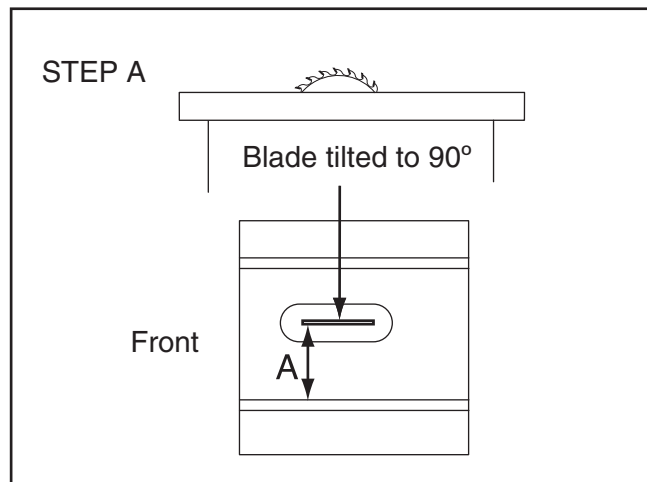

Figure 126. Measuring distance from miter slot to carbide tip of blade.
3. Measure from the miter slot to a carbide tip on the blade, as shown in **Figure 126**.